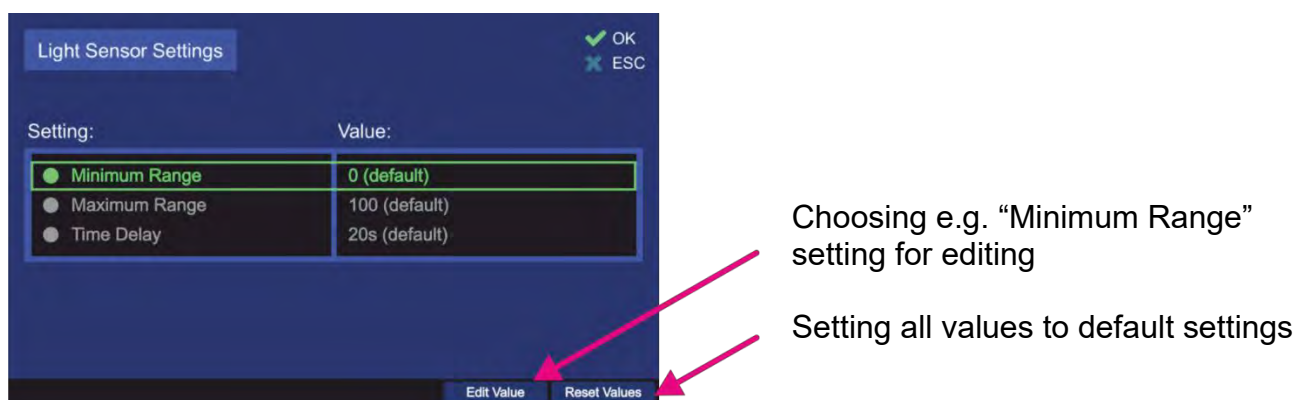

Fig. 89 Light sensor settings
- Leaving the top level dialog (s.Fig. 89) always press “OK” for the second time (after confirming the actual setting), otherwise, the changed settings will not be adopted.